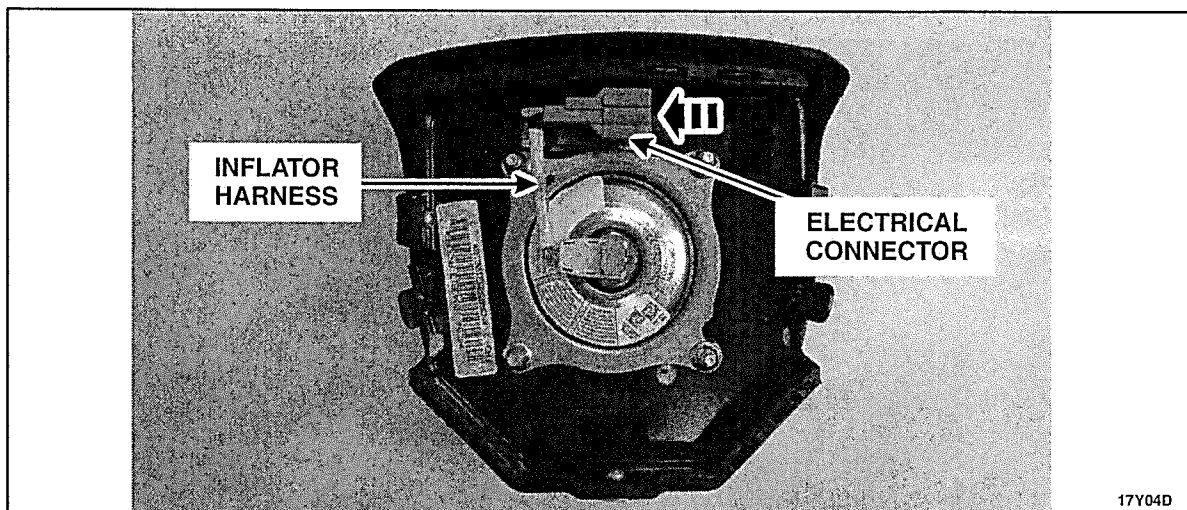

FIGURE 4
8. Align the T-shape index on both the wiring harness electrical connector and the airbag inflator, connect the *new* airbag wiring harness to the inflator module and fully seat the orange tab. See Figure 4.
9. Ensure the connection between the wiring harness electrical connector and the airbag inflator by pulling gently on the wiring harness to ensure it is properly seated. See Figure 4.
10. Slide the airbag inflator connector onto the tang. See Figure 4.